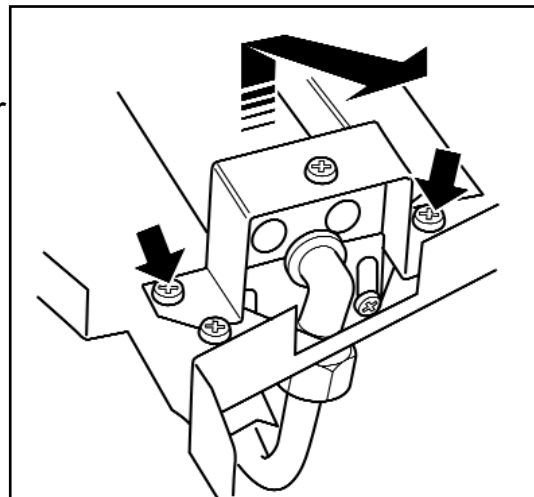

Figure 30. Removal of burner
3. Remove the two screws from the burner clamping plate (See figure 30)